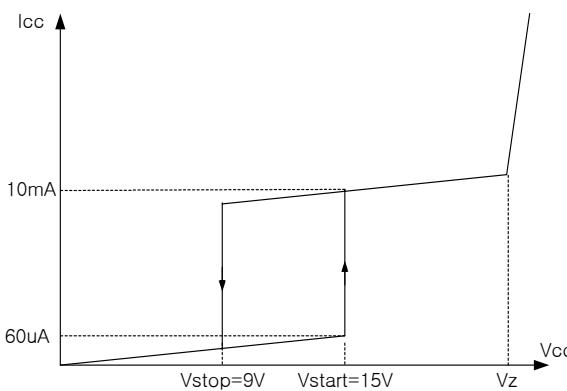

Figure 1. Relation between supply current and voltage
1. Startup : To guarantee stable operation of the control IC, Vcc has under voltage lockout (UVLO) with 6V hysteresis. Figure 1 shows the relation between the supply current (Icc) and the supply voltage (Vcc). Before Vcc reaches 15V, the start-up current is 60 μ A, which is usually provided by the DC link through start-up resistor. When Vcc reaches 15V, the control IC begins operation and the operating current increases to 10mA as shown. Once the control IC starts operation, it continues its normal operation unless Vcc goes below the stop voltage of 9V.